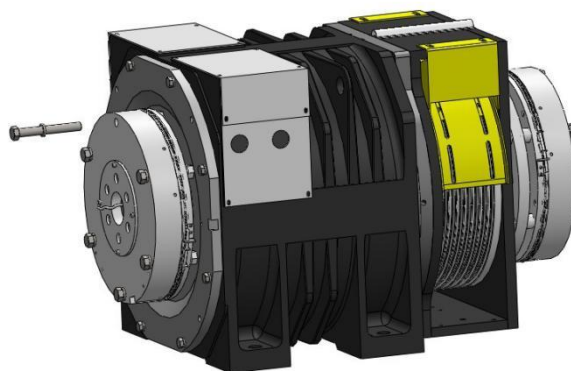

Figure 42: M16x130 bolt removal
4. Remove the bolt M16x165 with open end wrench (24mm). See Figure 42.